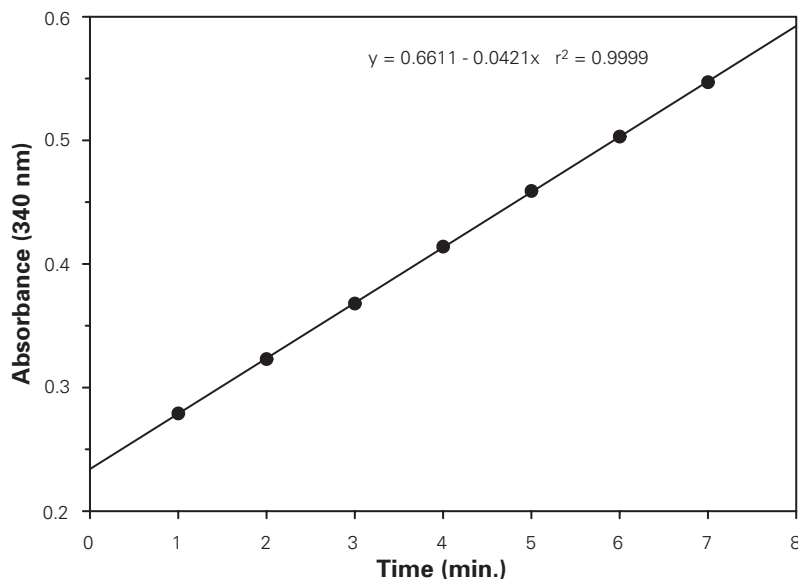

Figure 1. Activity of Rat Liver GST
- a. Plotting the absorbance values as a function of time to obtain the slope (rate) of the linear portion of the curve (a graph is shown in Figure 1 using rat liver GST) -*or*-